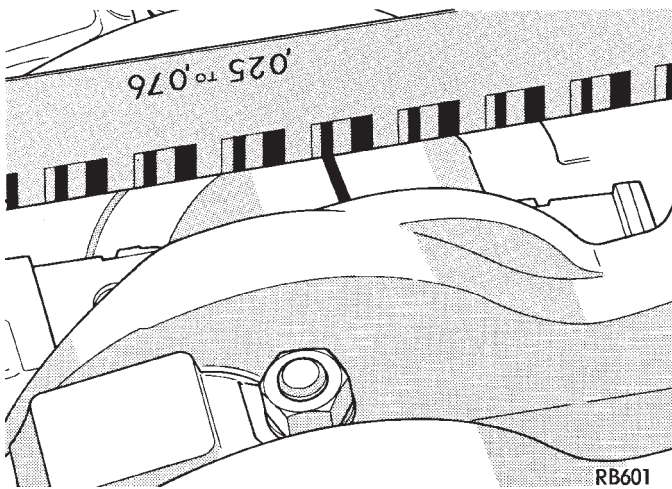

Fig. 16 Connecting Rod Checking Bearing Clearance
(1) Following procedures specified in the Standard Service Procedures Section for Measuring Main Bearing Clearance and Connecting Rod Bearing Clearance. (Fig. 16). Refer to (Fig. 18) for specifications.
(2) Tighten nuts to 52 N•m (38 ft. lbs.).
(3) Remove connecting rod cap and measure Plastigage (Fig. 16).